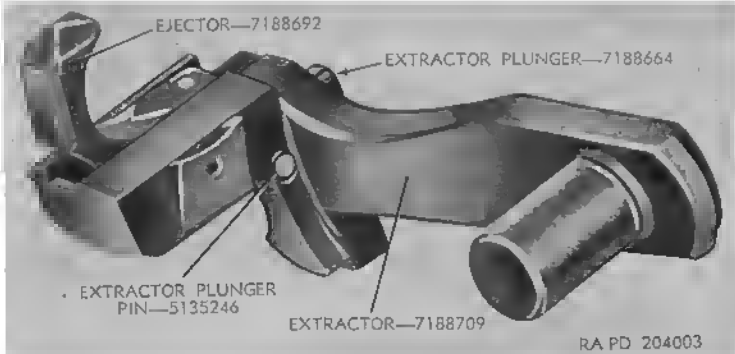
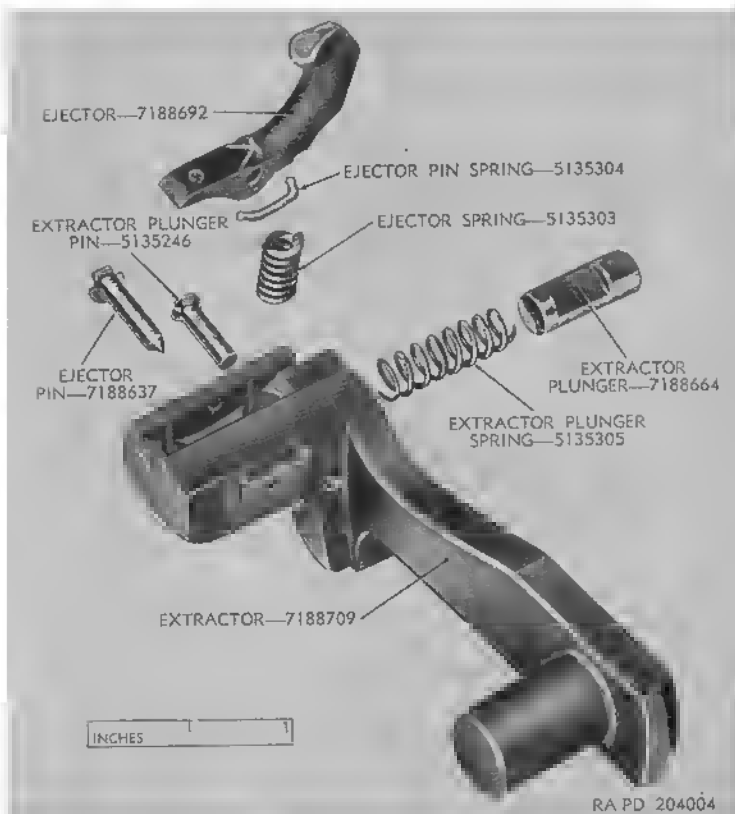

Figure 20. Extractor assembly—left-hand feed arrangement.
Figure 21. Extractor assembly—right-hand feed arrangement—exploded view.
- (1) Inspect for weak extractor cam plunger spring, broken or worn ejector (fig. 20), and loose extractor plunger pin or ejector pin (fig. 21).
- (2) Examine the ejector and extractor plunger (figs. 20 and 21) for burrs.
- (3) Inspect the face of the ejector to see that it is free from burrs and brass. Its contact outline should not be worn.
- (4) Inspect the ejector to see that the ejector pin is flush with extractor surface. When assembled into the gun, its action should be free.
- (5) Examine the extractor to see that it is not bent and that the claw is not worn or buried.